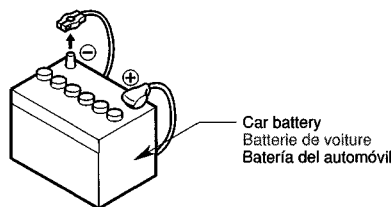

Figure 1 / Figure 1 / Figura 1
3. Be sure to disconnect the battery "⊖" terminal before starting. This is to prevent short circuits during installation. (Figure 1)
3. S'assurer de débrancher la borne "⊖" de la batterie avant de commencer. Cela évitera les court-circuits pendant l'installation. (Figure 1)